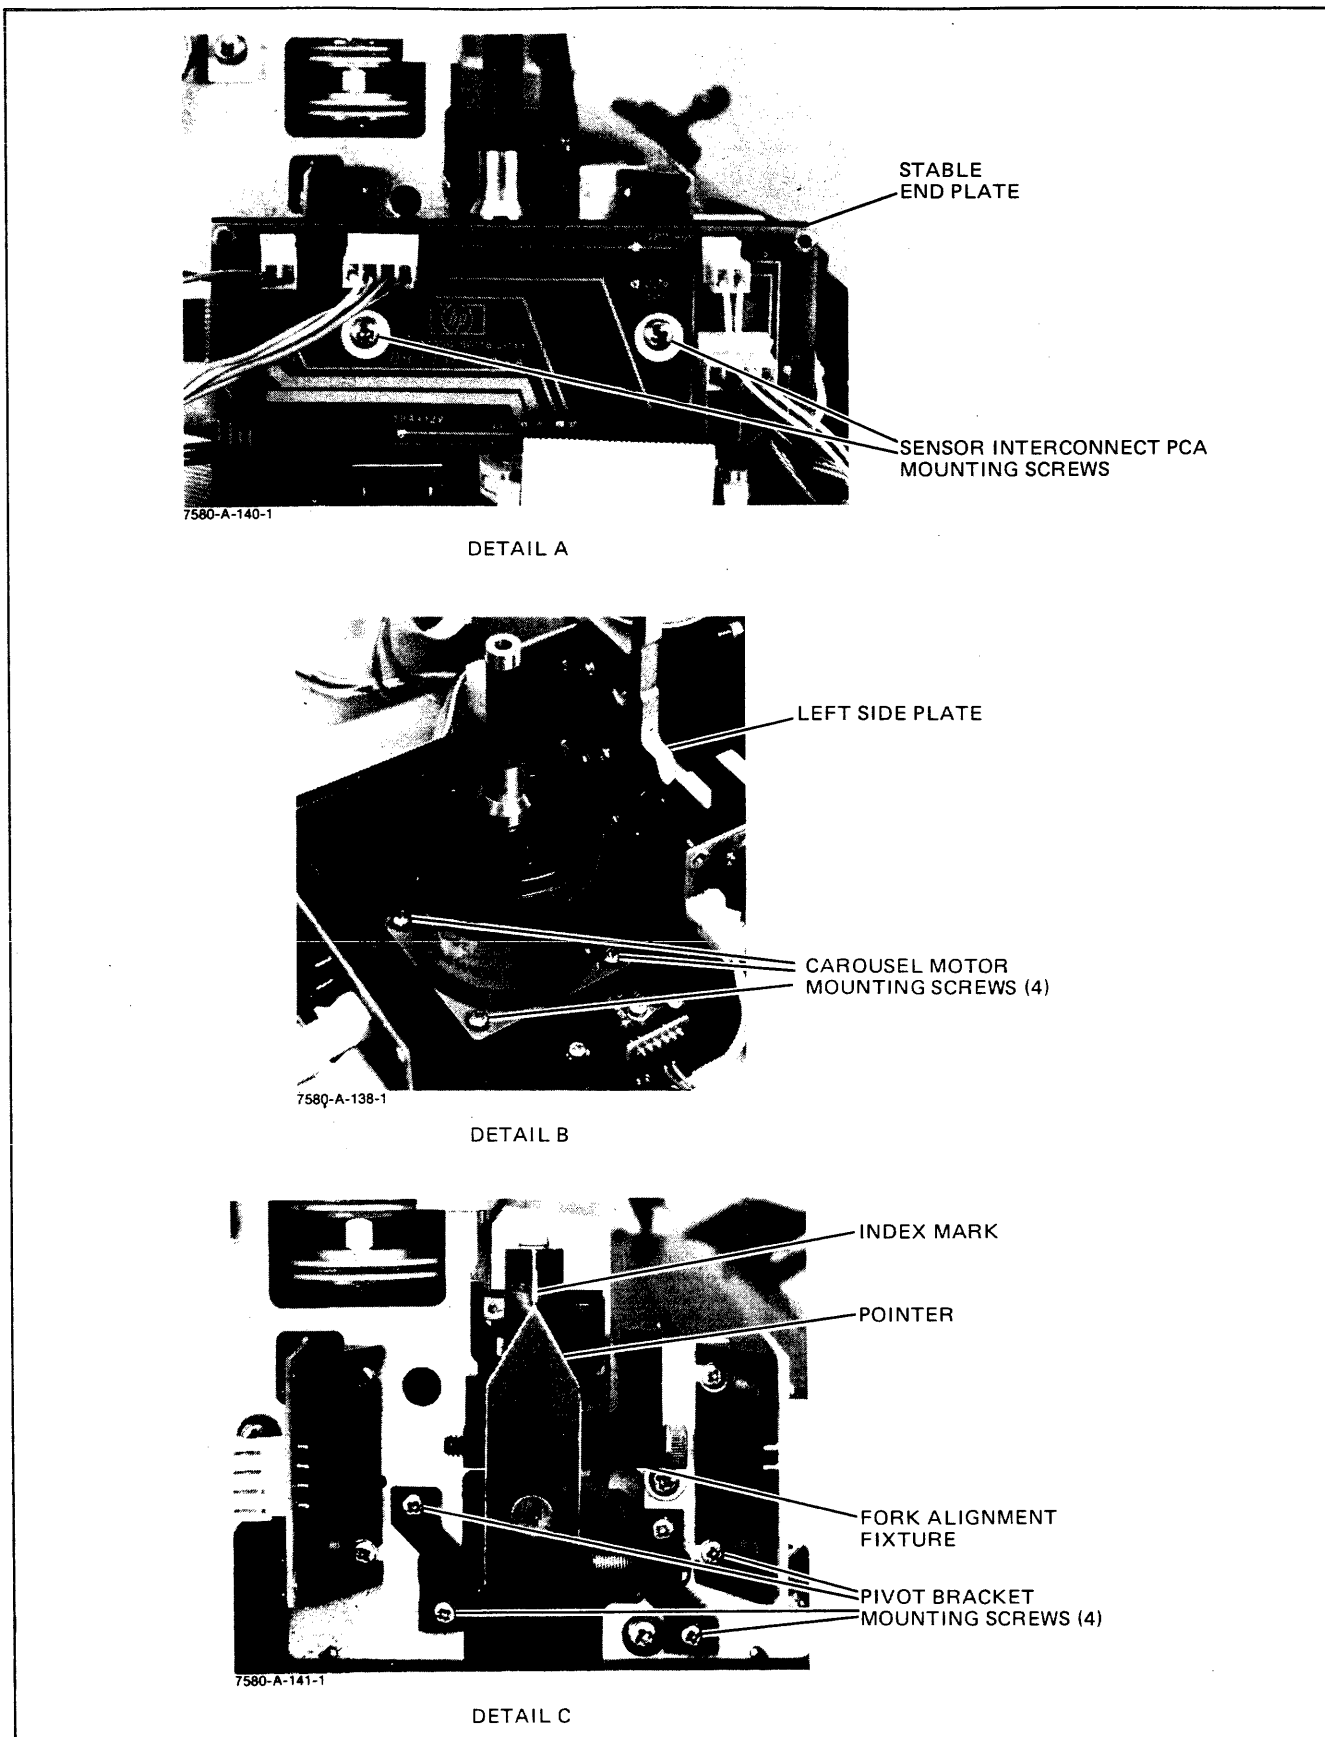

Figure 3-9. Stable Cup Fork Adjustment
- c. Remove the Sensor Interconnect PCA cables and mounting screws. Remove the PCA. See Figure 3-9, Detail A. Remove the stable and plate located behind the Sensor Interconnect PCA.
- d. Remove the four carousel motor mounting screws and remove the motor. See Figure 3-9, Detail B.
- e. Set the fork alignment fixture, HP part number 07580-60207, on the left side plate. See Figure 3-9, Detail C.
- f. Manually position the pen carriage so that the pen holder engages the pen body of the fork alignment fixture. The pointer should align with the index mark on the alignment fixture. See Figure 3-9, Detail C. If the pointer does not align with the index mark, perform the remaining steps in this procedure.
- g. Using a phillips head screwdriver, loosen the four pivot bracket mounting screws. See Figure 3-9, Detail C.